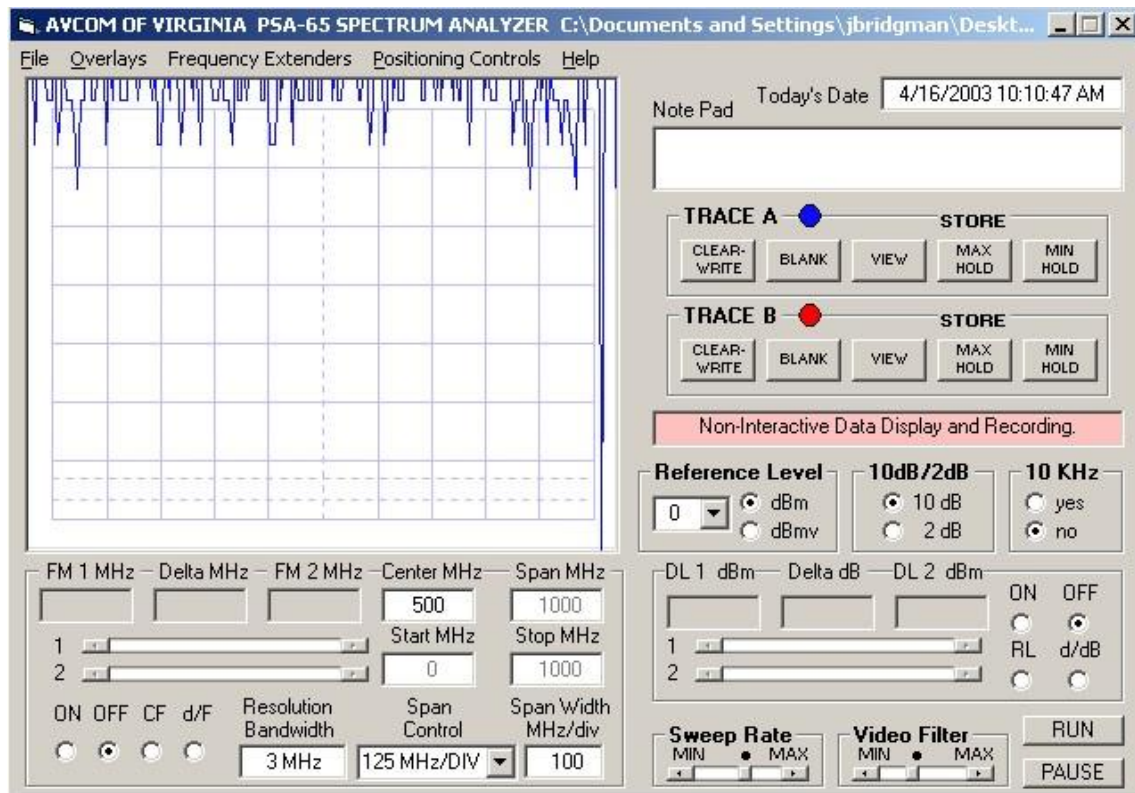

Figure TS-1
2. Weird lines in the display jumping around. Figures TS-1 & TS-2